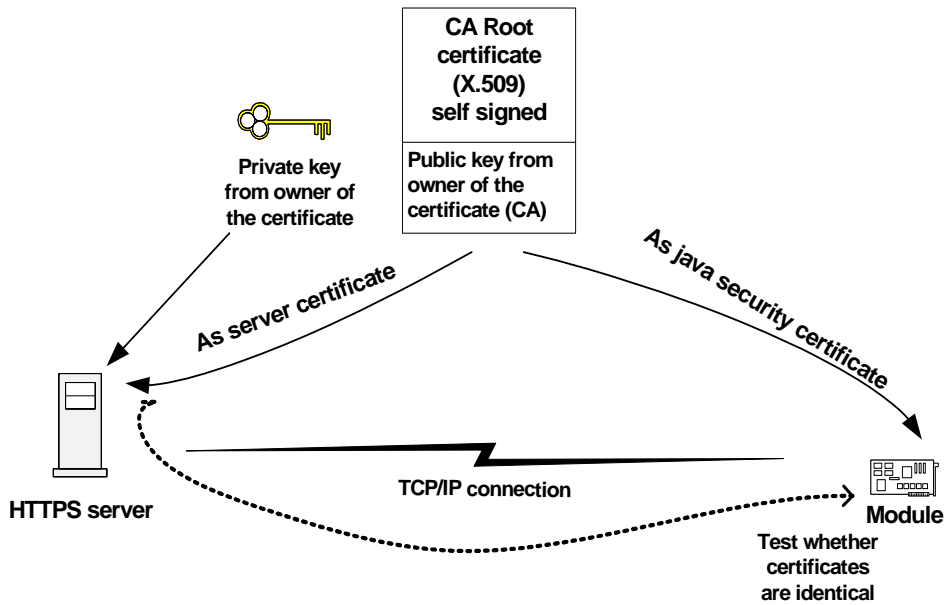
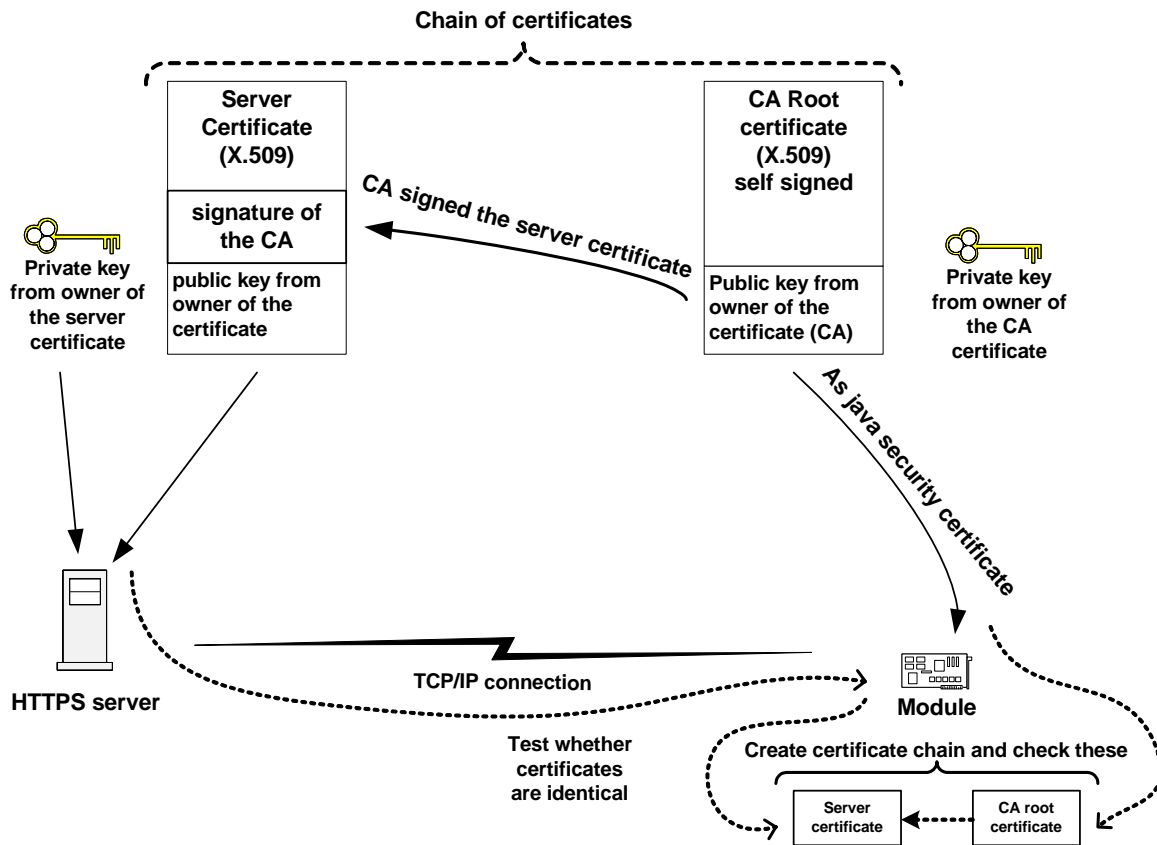

Figure 51: Mode 2 - Server certificate and certificate into module are identical
Figure 52: Mode 2 - Server certificate and self signed root certificate in module form a chain
- The server certificate is examined when setting up a connection. Two configurations are valid. The server certificate is identical to the certificate in the module (both certificates are self signed root certificates) or the server certificate forms a chain with the certificate of the module. Thus the authenticity of the server certificate can be examined with the help of the certificate of the module. See Figure 51 and Figure 52.